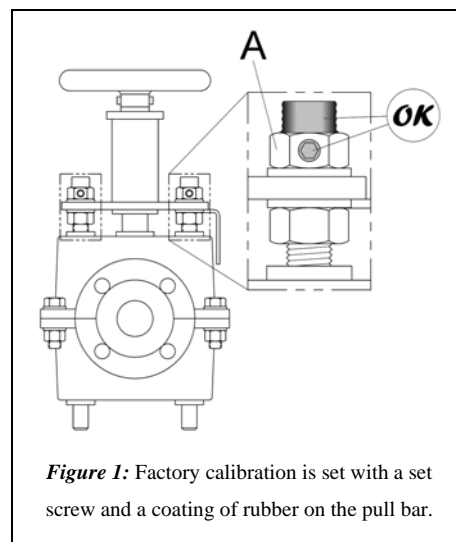

Figure 1: Factory calibration is set with a set screw and a coating of rubber on the pull bar.
The RF Valve® is factory calibrated to close evenly on the elastomer tube inside. After calibration, a set screw is inserted into each of the A-nuts and a coating of blue rubber is applied to the pull bar threads above the A-nut (Fig. 1).
- it appears the A-nuts have been disturbed (for example: missing set screw and/or missing blue rubber coating). See Fig. 1.